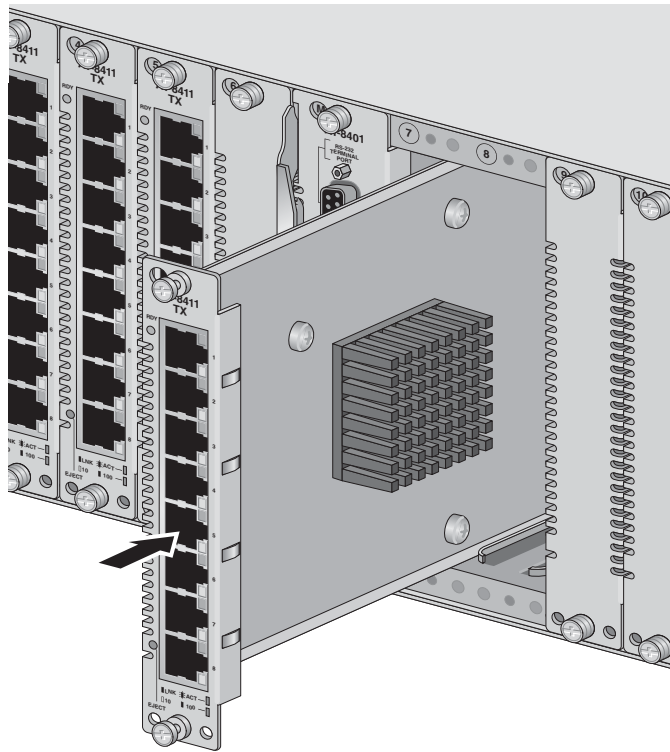

Figure 16 Installing the AT-8411 Line Card into slot 7
7. Align the edge of the line card with the top and bottom guide rails as you carefully slide the line card into the slot. See Figure 16.